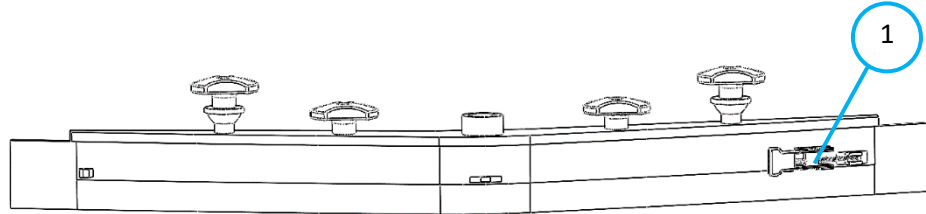

Fig. 3
1. To remove the rear squeegee blade, unlock the latch and remove the metal blade (Fig. 3 – 1).